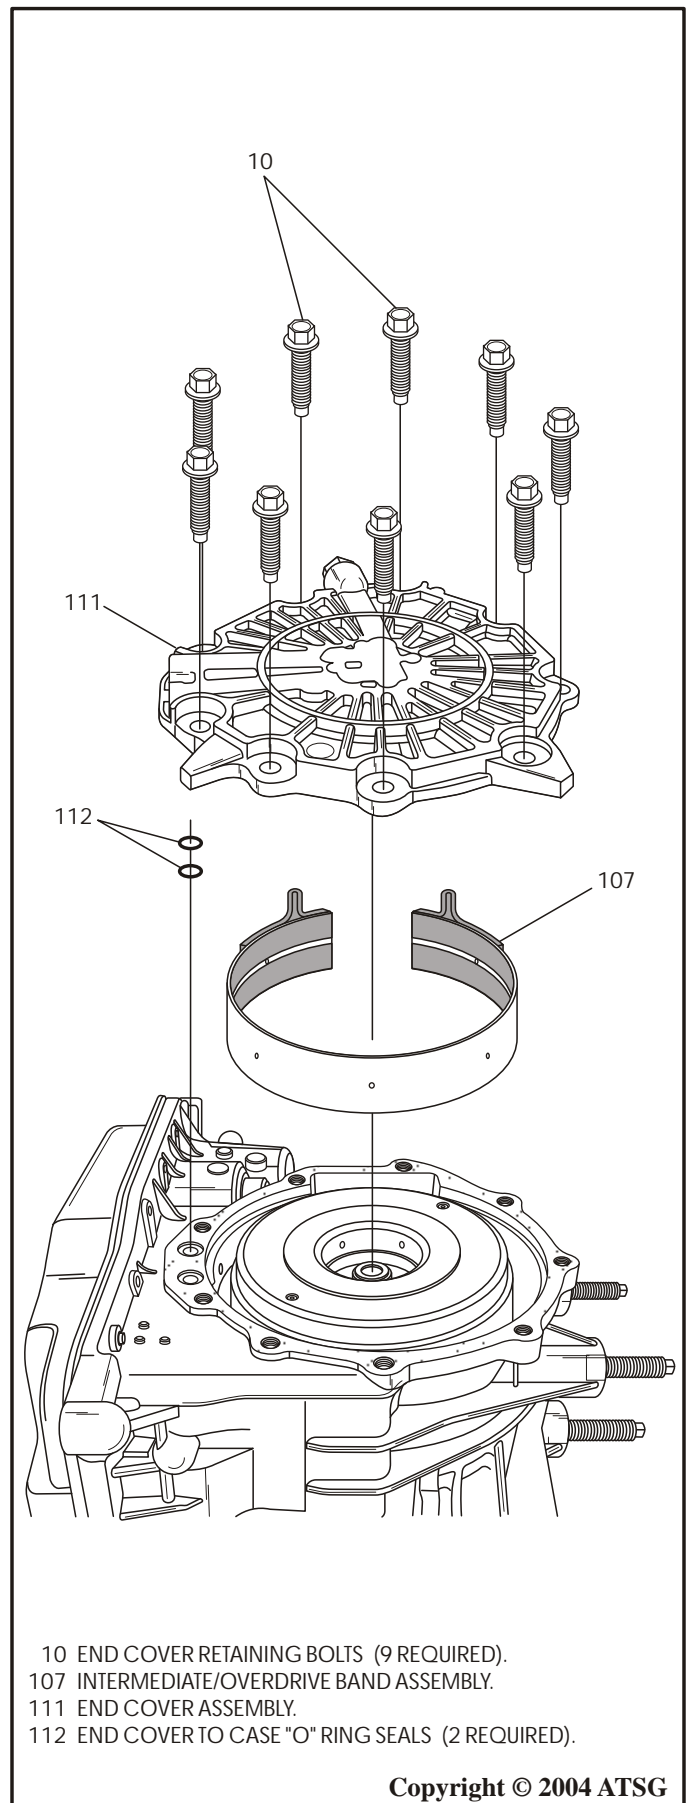

Figure 26
9. Remove the nine end cover retaining bolts, as shown in Figure 26, and remove end cover.
10. Remove and discard the two end cover to case "O" ring seals, as shown in Figure 26.
11. Remove the intermediate/overdrive band, as shown in Figure 26.